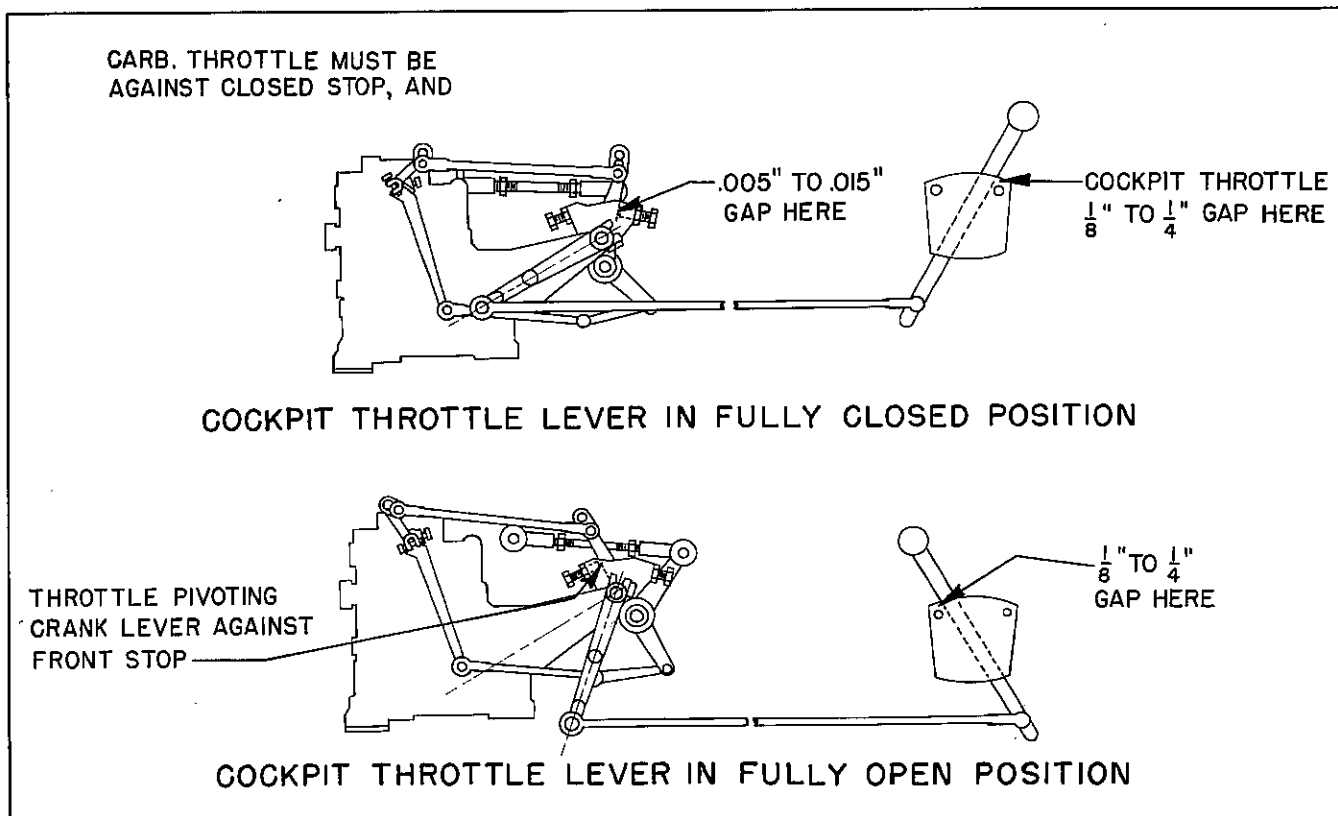

Figure 99—Schematic Sketch of Cockpit Throttle and Regulator Stop Clearances.
1. When the hand pressure is released from the lever, there should be a gap of $\frac{1}{8}$ " to $\frac{1}{4}$ " between the cockpit throttle lever and the stop at the "open" end of the throttle quadrant. (See Figure 99.)